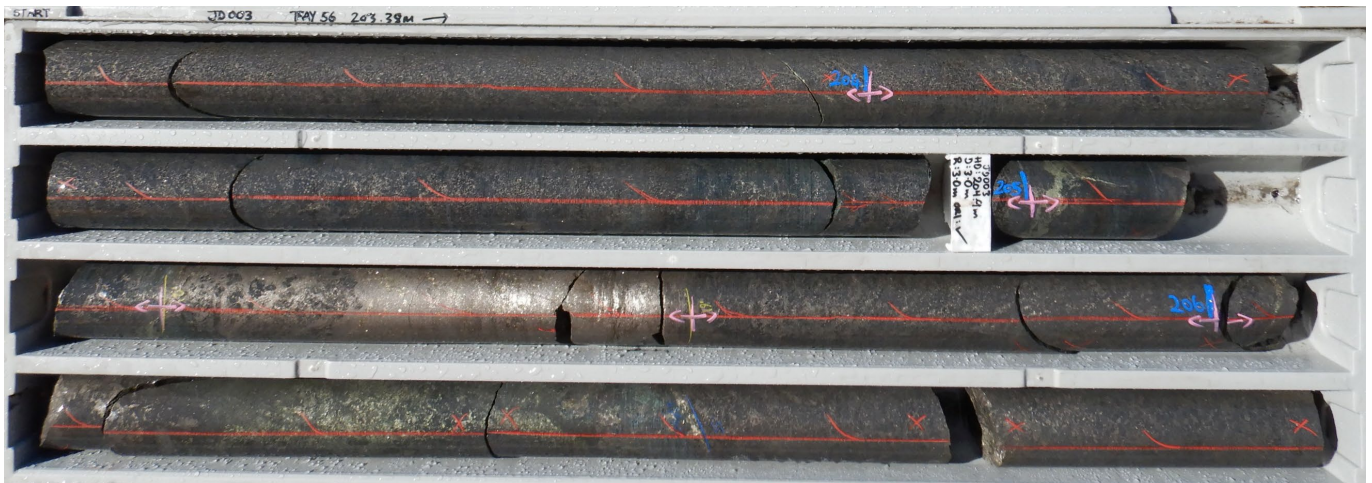

Figure 2. JD003 core from 203.4-207m.
- 17m of matrix (20-30% sulphide) and stringer massive sulphides (pyrrhotite-pentlandite-chalcopyrite) from 191.5m down-hole (**Figure 2**) and 50m down-dip from JRC004 at the predicted location of the off-hole conductor.